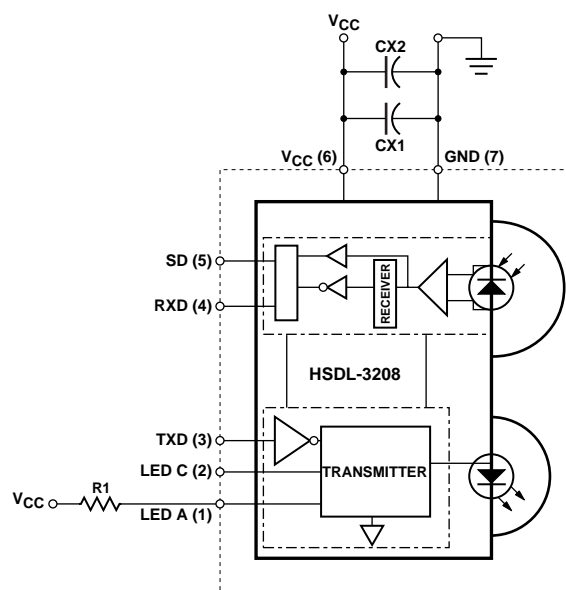

Figure 1. Functional block diagram of HSDL-3208.
9. In environments with noisy power supplies, supply rejection performance can be enhanced by including CX2, as shown in "Figure 1: HSDL-3208 Functional Block Diagram" in Page 1.